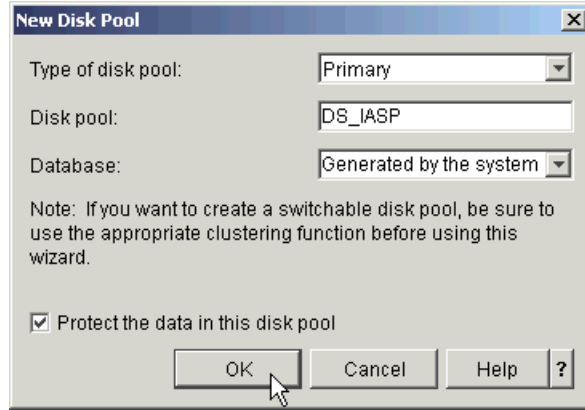

Figure B-12 Defining a new disk pool
- On the New Disk Pool dialog shown in Figure B-12, select Primary from the pull-down for the Type of disk pool, give the new disk pool a name and leave Database to default to **Generated by the system**. Ensure the disk protection method matches the type of logical volume you are adding. If you leave it unchecked, you will see all available disks. Select **OK** to continue.